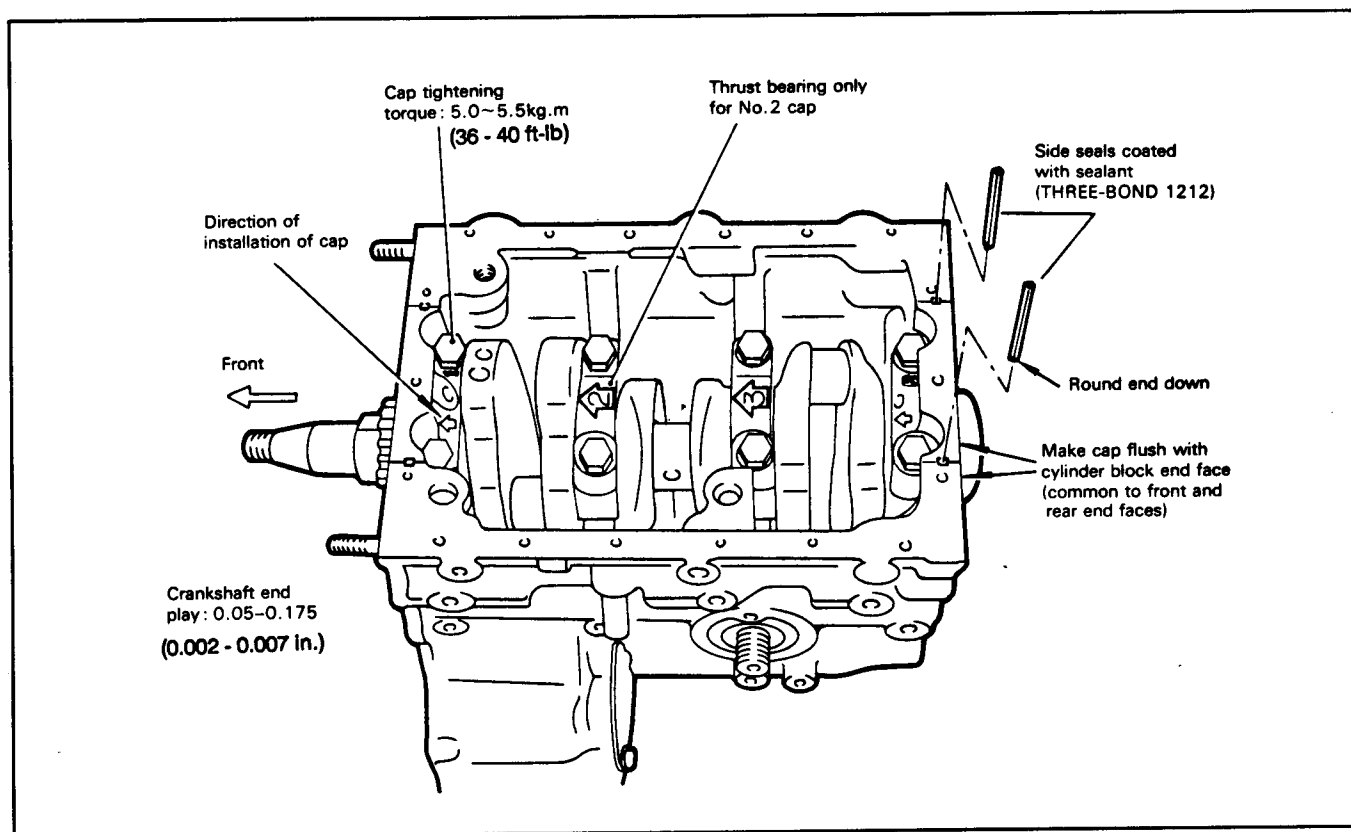

Figure 97
10. Reverse steps 1 - 5 to install the crankshaft (Fig. 97). When installing the No. 1 and No. 4 bearing caps, apply sealant (Permatex No. 2 or equivalent) to the upper surface that meets with the cylinder block.